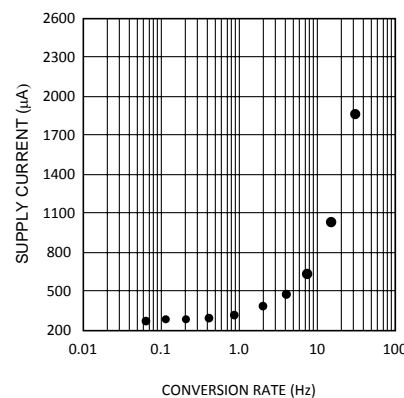

Figure 4. Supply Current vs Conversion Rate
The LM64 takes approximately 31.25 ms to convert the Local Temperature (LT), Remote Temperature (RT), and to update all of its registers. The Conversion Rate may be modified using the Conversion Rate Register. When the conversion rate is modified a delay is inserted between conversions, the actual conversion time remains at 31.25 ms. Different Conversion Rates will cause the LM64 to draw different amounts of supply current as shown in Figure 4.